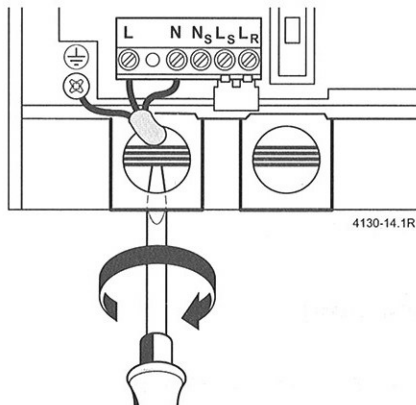

Fig. 28
- ▶ Feed cable through cable grommet and connect the mains supply cable, see fig. 28.